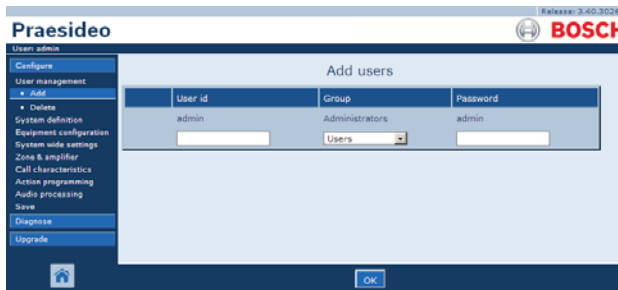

figure 41.2: Add user, step 1
- 1 Go to *Configure > User management > Add*. A screen similar to the one in figure 41.2 appears in the main frame of the web interface.